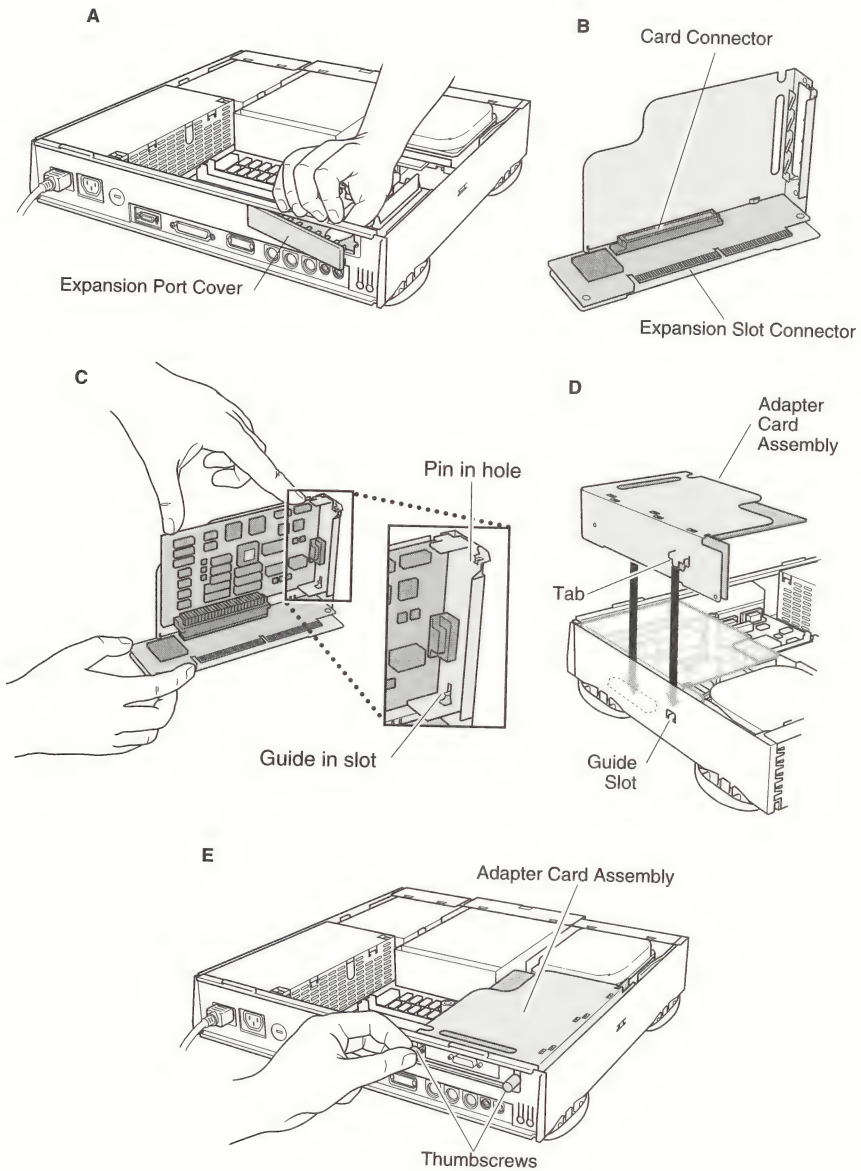

Figure 2 Expansion Card Installation
1. Remove the top cover and the expansion port cover (Figure 2-A) from the back panel. On the Power Macintosh 6100/60 and WS 6150 you must also remove the SCSI hard drive cable. (The Power Macintosh 6100/60AV has an AV card installed in the PDS slot. You cannot install additional expansion cards in this machine.)
2. Loosely connect the expansion card connector to the adapter card connector (Figure 2-B).
3. Fit the adapter card pin into the expansion card hole (Figure 2-C).
5. Insert the connector on the bottom of the adapter card into the expansion slot. Make sure that the tab on the side of the adapter card slides into the slot on the side of the bottom case (Figure 2-D).
6. Attach the thumbscrews (Figure 2-E). On the Power Macintosh 6100/60, you must also reconnect the SCSI hard drive cable, making sure to run the cable over the expansion card.